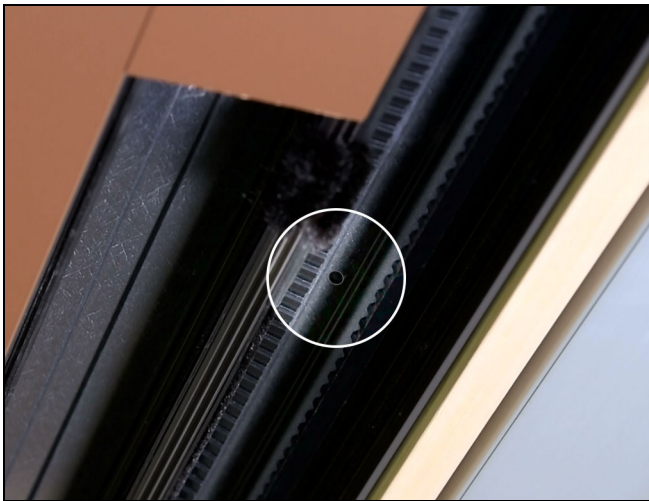

Figure 46
2. Locate the pre-drilled hole 1" behind the interlocking stile. See Figure 46.